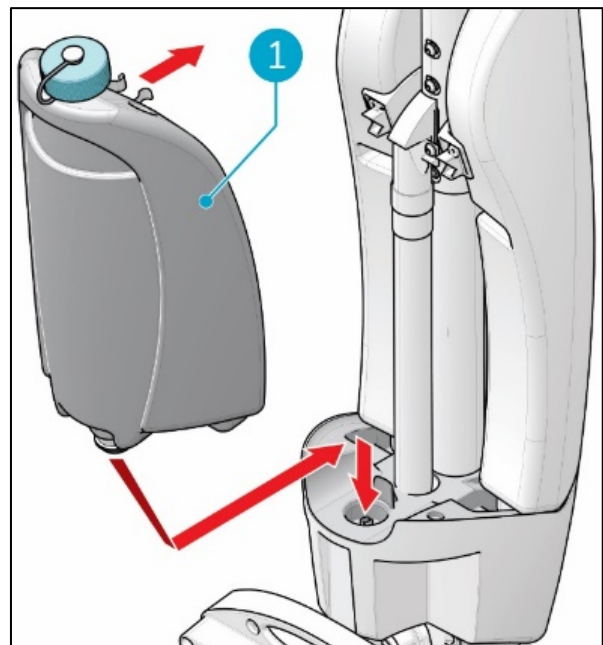

Figure 14
5. Put the tank on the i-mop XL pro with the valve first (Figure 14, pos 1).